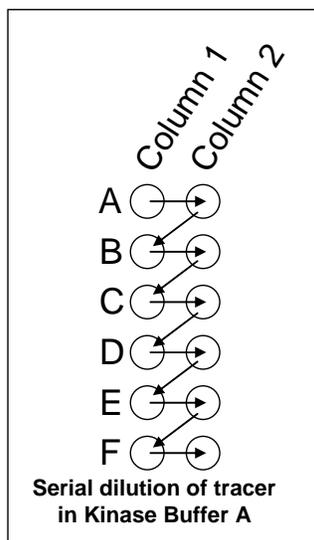

Figure 2. Serial dilution of tracer.
6. Continue as depicted in Figure 2.